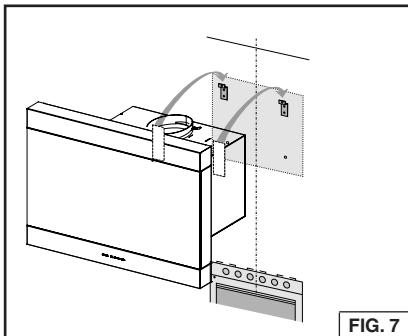

FIG. 7
1. Install the hood onto the wall mounting brackets. Fig.7.